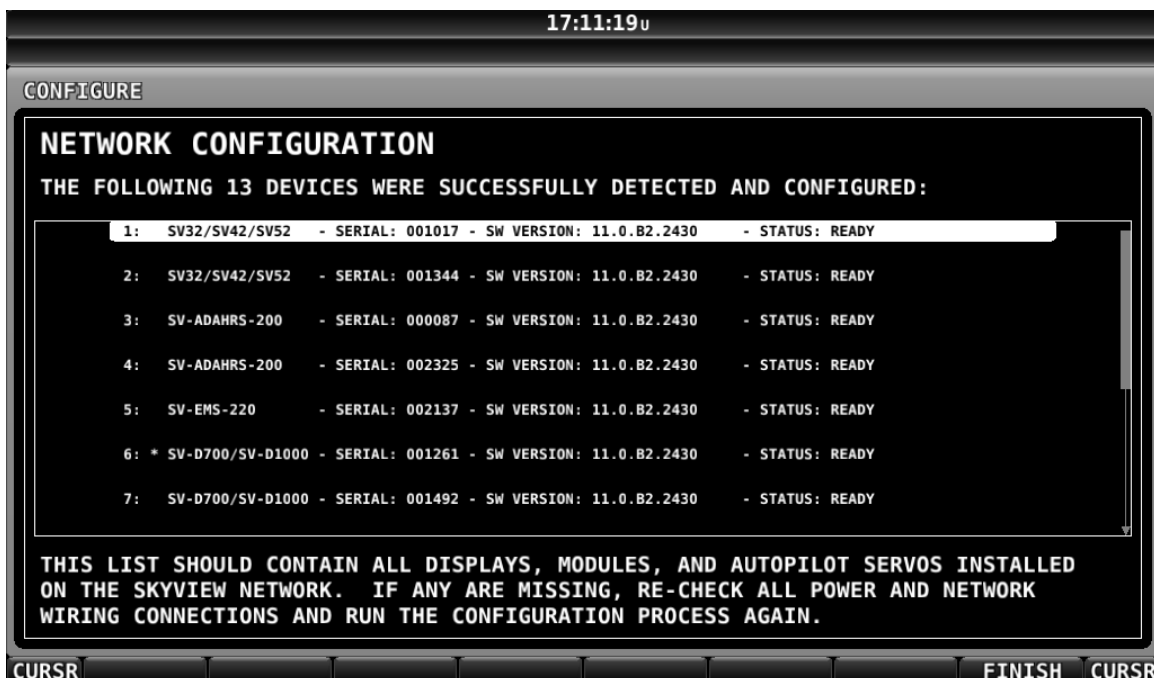

Figure 24 – Successful SkyView Network Configuration Screen
2. *Press DETECT*. A successful network configuration yields the screen in Figure 24.